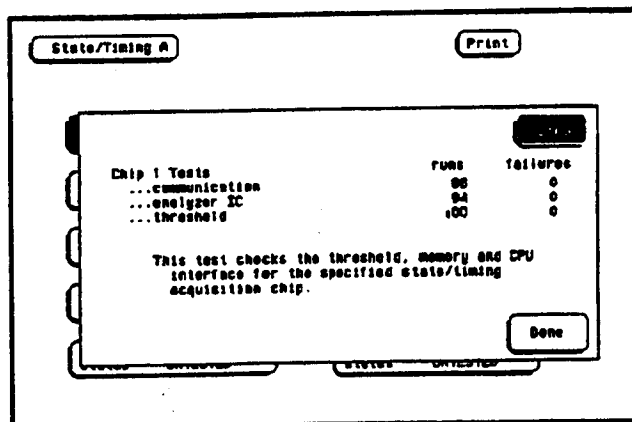

Figure 6-7. Stop Field
- j. To stop a Repetitive run, touch **Stop**. See figure 6-7. To exit the test touch **Done**.